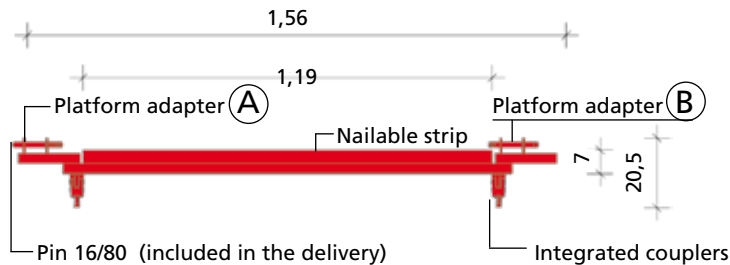
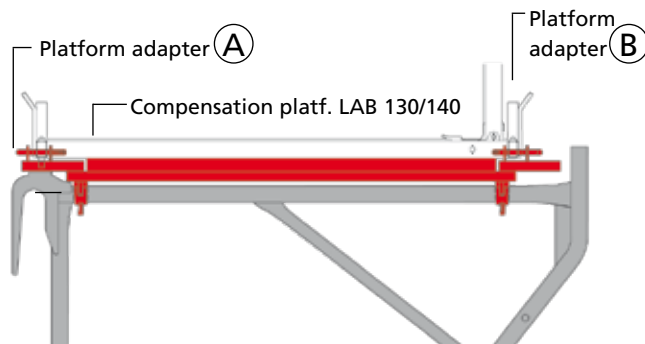

Fig. 31.1
Fig. 31.2
■ The platform adapter (A) of the combi ledger (Fig. 31.1) must be located over the bracket's suspension hook. This way the compensation platform LAB 130/240 is moved forward by approx. 6,5 cm and does not collide with the railing of the adjacent platform (Fig. 31.2). The railing gap is closed with a job-site solution, see p. LAB-34.